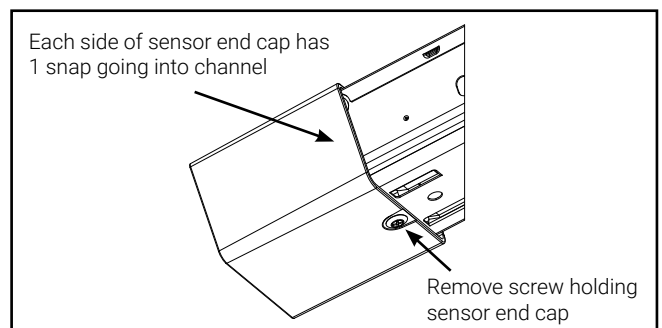

Figure 1.
3. If the fixture already has a sensor end cap installed, remove sensor endcap (Figure 1) prior to removing cover.